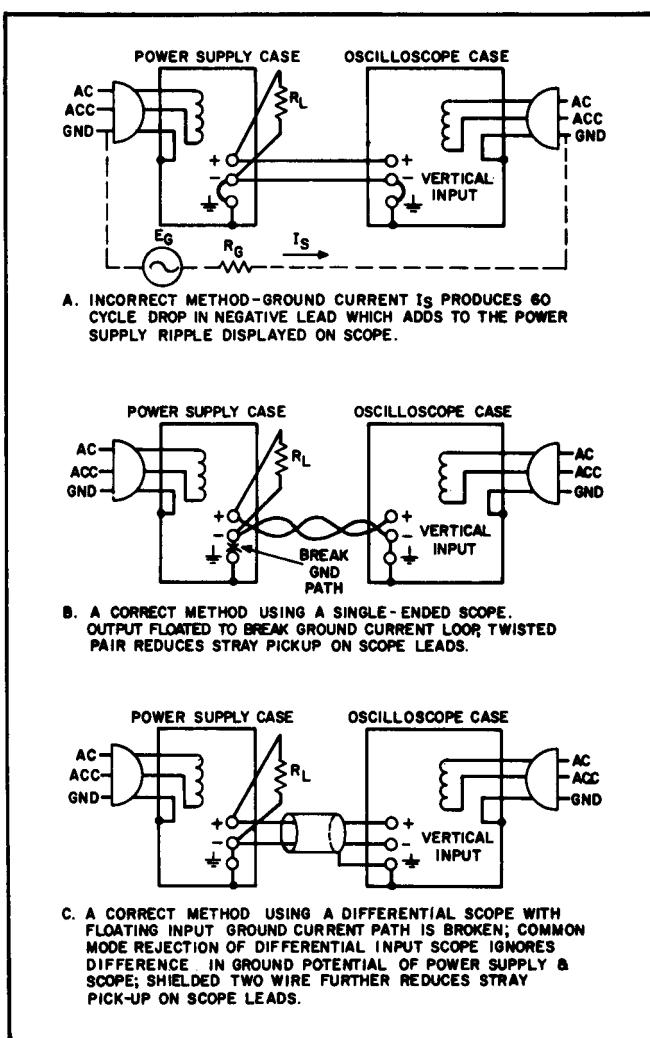

Figure 5-6. CV (Constant Voltage) Ripple and Noise Test Setup
**5-22** The same ground current and pickup problems can exist if an RMS voltmeter is substituted in place of the oscilloscope in Figure 5-6. However, the oscilloscope display, unlike the true RMS meter reading, tells the observer immediately whether the fundamental period of the signal displayed is 8.3 milliseconds (1/120 Hz) or 16.7 milliseconds (1/60 Hz). Since the fundamental ripple frequency present on the output of an AC supply is 120 Hz (due to full-wave rectification), an oscilloscope display showing a 120 Hz fundamental component is indicative of a "clean" measurement setup, while the presence of a 60 Hz fundamental usually means that an improved setup will result in a more accurate (and lower) value of measured ripple.